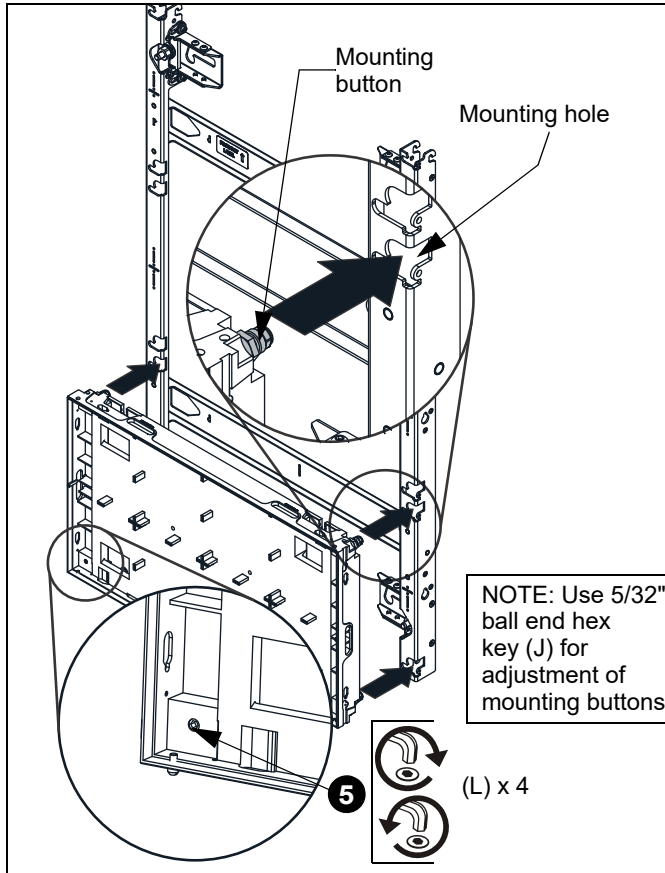

Figure 21
3. Guide cabinet mounting buttons into mounting holes and lower cabinet ensuring that mounting buttons are securely seated in the four mounting holes. (See Figure 21)
- the mounting buttons (for slight adjustments only) (See Figure 21)